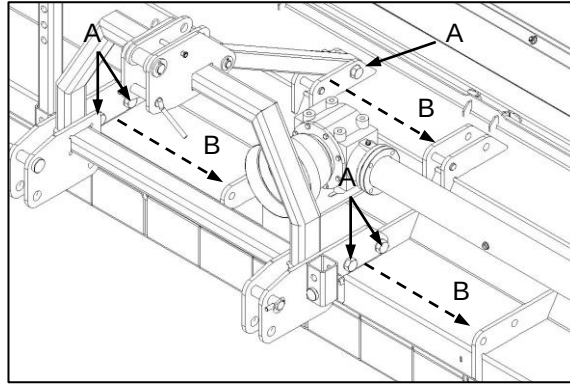

Fig. 5
- ✓ Remove all front and rear hitch frame mounting bolts (Fig. 5-A).
- ✓ Verwyder alle voorste en agterste haakraammonteerboute (Fig. 5-A).
- ✓ Manually relocate the hitch frame to the alternative mounting locations situated to the left of the implement centre line (Fig. 5-B).
- ✓ Verskuif die haakraam met die hand na die alternatiewe monterposisies links van die implement se middellyn (Fig. 5-B).